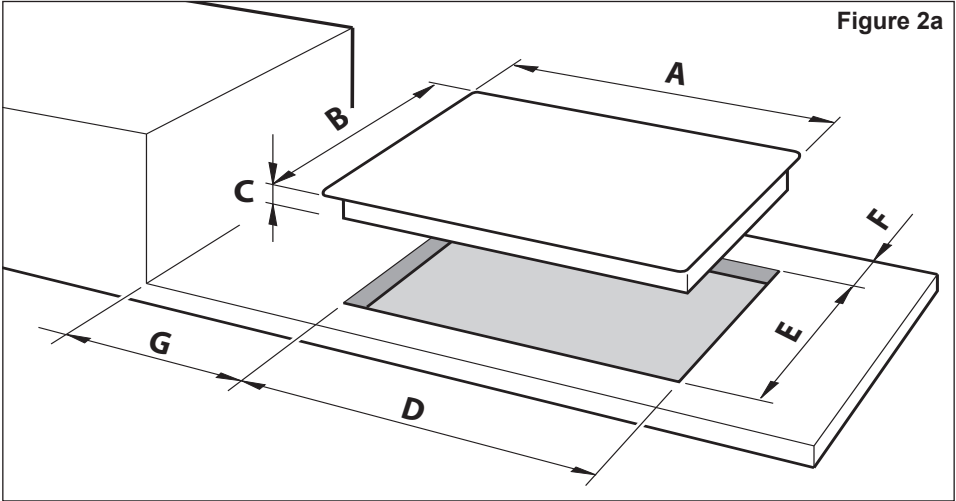

Figure 2a
The installation shall comply with the dimensions in figs. 2a, 2b bearing in mind that:
- having the cooktop spaced away from the wall (see figures 2a, 2b);
- Cut the unit according to the dimensions in fig. 2a.